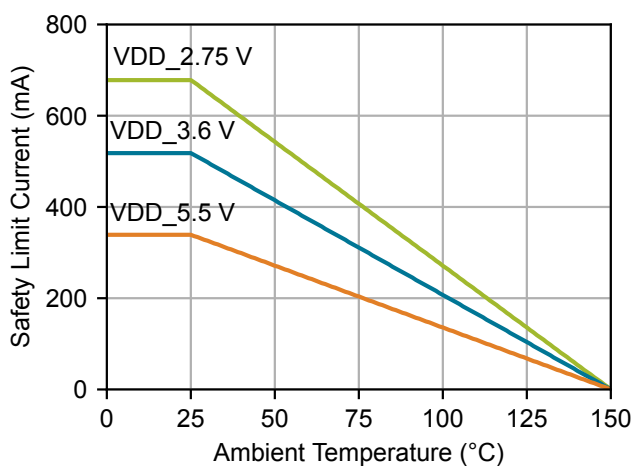

Figure 4.15. (NB SOIC-16) Thermal Derating Curve, Dependence of Safety Limiting Current
1. Maximum value allowed in the event of a failure; also see the thermal derating curve in Figure 4.15 \(NB SOIC-16\) Thermal Derating Curve, Dependence of Safety Limiting Current on page 53.